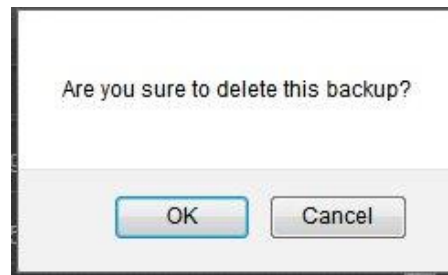

Figure 203: Confirmation Window
- The following confirmation window will appear. To continue the deletion process, click on the Yes button (Figure 203).